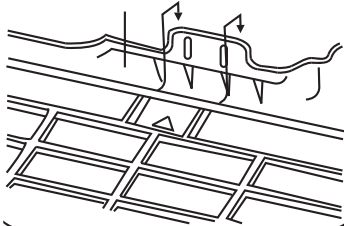

Fig. 78 - Hanging Indoor Unit
4. Hang indoor unit on upper hooks of wall mounting plate (see Fig. 78).